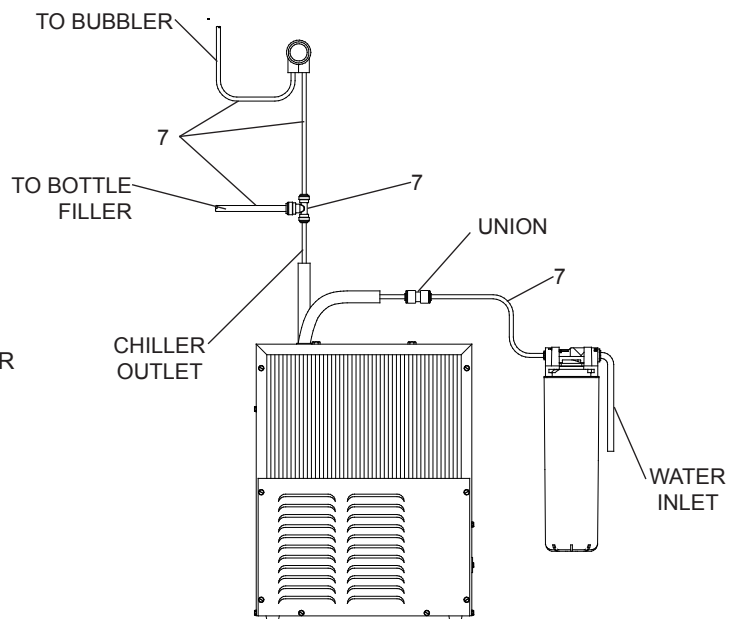

**Figure 4 – LZWS-ERFP8-RF Filter Mounting
4. (For LZWS-ERFP8-RF) If an existing filter is not present, install filter bracket on chiller (Fig. 4), then install the filter head to the bracket, plumb from the filter outlet to the chiller inlet with  $\frac{1}{4}$ " poly tubing and  $\frac{1}{4} \times \frac{1}{4}$  union, install filter.